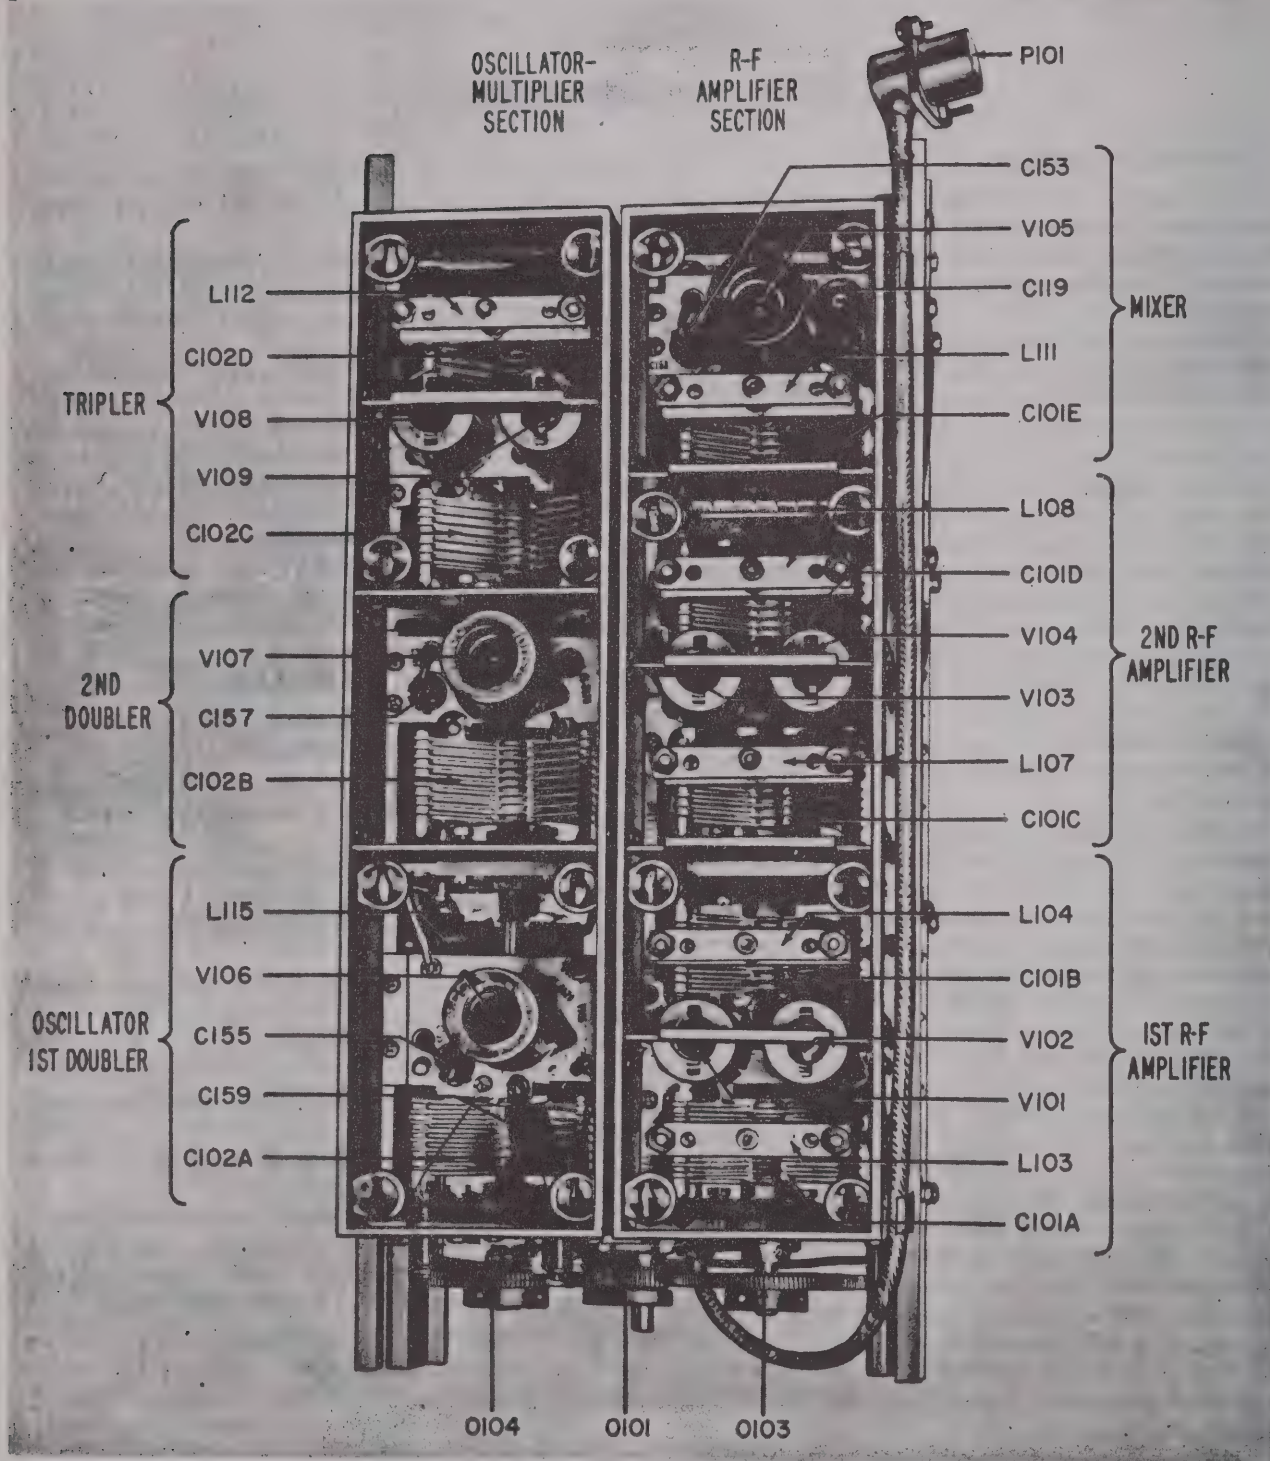

Figure 2-2. Preslector Viewed from Left Side of Unit, Shielding Covers Removed
a. PRESELECTOR. (See figures 2-2 and 2-3.)
(1) R-F AMPLIFIER SECTION.
Tuning of the various stages is accomplished by capacitor C102, which is a four-section capacitor, each section being of the split-stator type. The use of split-stator capacitors in the balanced tank circuits permits the use of a grounded rotor to reduce inter-sectional capacitance. Rotor grounding is accomplished by wiping contacts. Since no appreciable r-f currents flow through these contacts, the inherent noise associated with wiping contacts is not present. Capacitor C102 is geared to the five-section capacitor, C101, to provide single-control tuning of the receiver; see figures 2-2 and 2-3. The trimmer inductance of the tripler stage and the trimmer capacitors utilized in all the stages of the oscillator-multiplier section are integral parts of the tuning capacitor, similar to those described previously in subparagraph 2a(1)(b), this section.